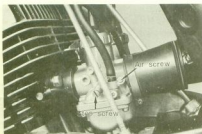

Fig. 3-18-4
- 5) Start the machine and let it warm up. Synchronize the idle speed so that both cylinders pull evenly at 1,300-1,500 rpm. The idle speed adjuster is screwed into the side of the carburetor. Screwing it in increases idle speed, screwing it out decreases idle speed (Fig. 3-18-4).